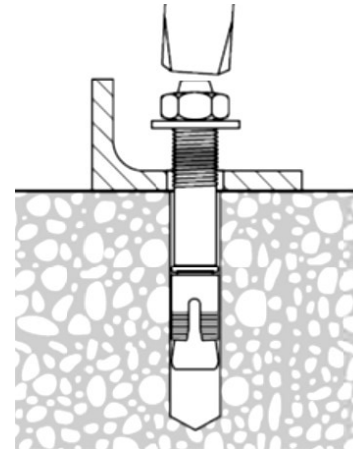

**Figure 5.** Steps for Anchoring Expansion Anchors into Concrete**Step 1. Drill Hole**
10. Reference Figure 4. for concrete anchoring guidelines and Figure 5. for concrete anchoring steps.